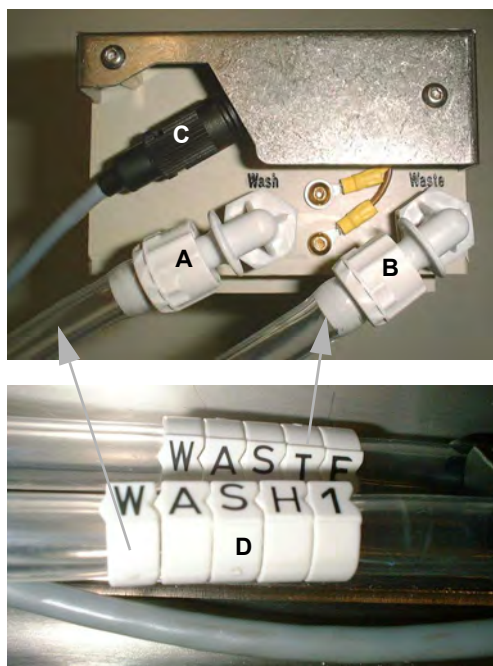

Fig. 5-7 Connections of the wash block
- 4** Plug the wash level sensor cable into the corresponding connectors on the wash unit (C) and the wash block (C, Fig. 5-7, 2 5-5).
- 5** Connect the different containers with wash liquid (D) and the waste container (E) with the corresponding fittings of the wash unit.
- 6** Connect the CAN port wrc-control No. 1 (F) to a free CAN connector on the option board of the instrument.